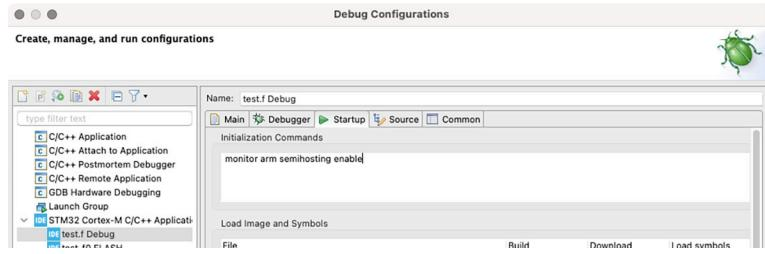

Figure 24.34: Configure the *Debug Configuration* to enable semihosting with OpenOCD
5. Configure the current *Debug configuration* by selecting ST-LINK (OpenOCD) in the **Debug probe** field and add “monitor arm semihosting enable” initialization command in *Debug Configurations - Startup tab*, as shown in **Figure 24.34**. The **Debug Console** view is used for semihosting